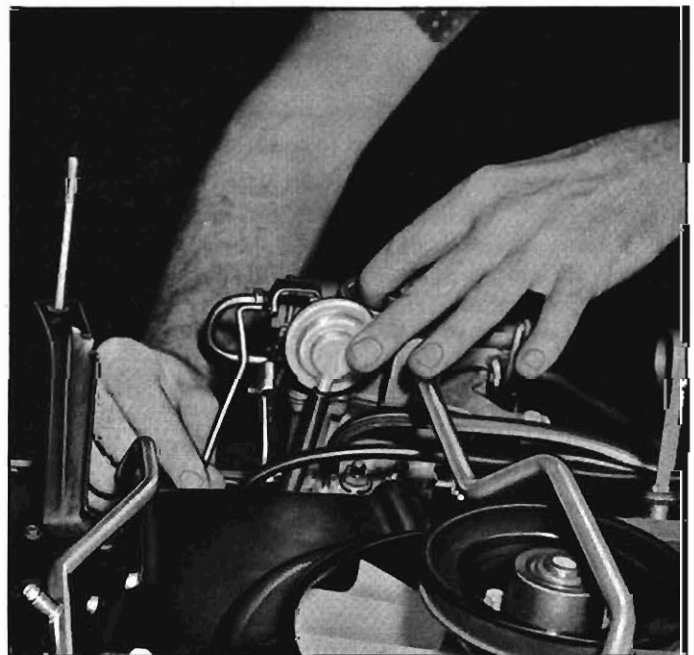

Fig. 8—Choke Control Rod Adjustment (R-10 Shown)
**CHOKE ADJUSTMENT (Refer to Figure 8)**